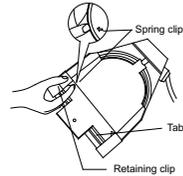

Figure 3
5. Press the spring clip with your finger to release the lens (**Figure 3**).
1. Position the luminaire with the front of the unit (the lens side) facing you, and tilted slightly (**Figure 3**).